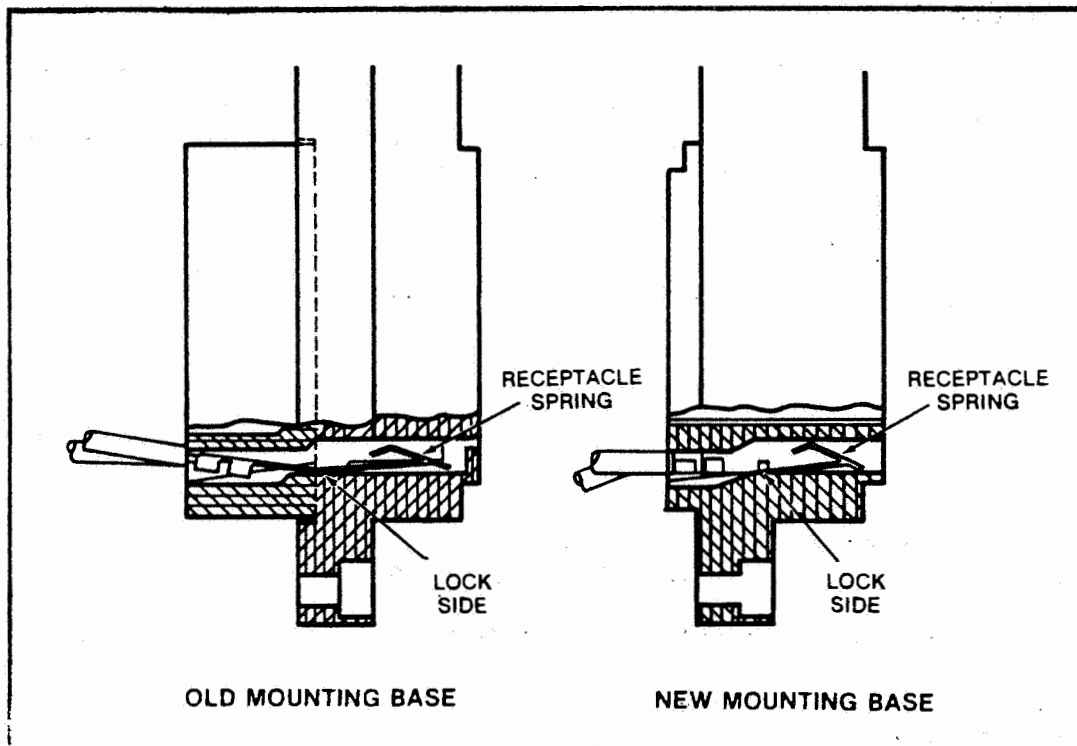

Figure 2. Receptacle Contact Spring Installed
- a. Receptacle contact springs must be inserted into the base with the lock side down (Refer to Figure 2).